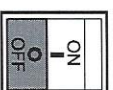

Figure 26. Idle Control Switch (OFF)
- Place idle control switch (Figure 26) in the **OFF** position